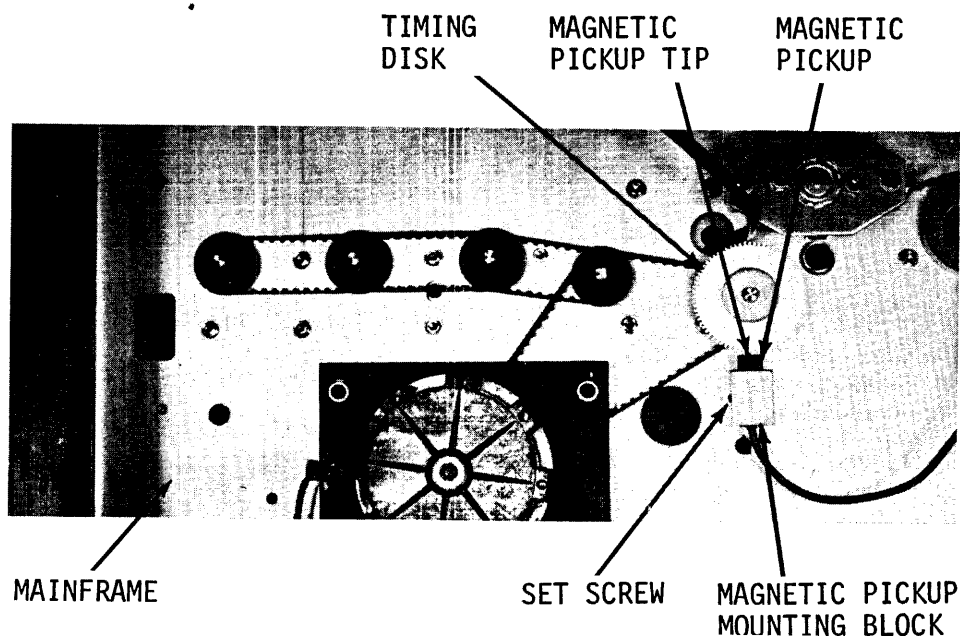

Figure 9-13. Magnetic Pickup Replacement
- b. Using a 1/16 Allen wrench, LOOSEN set screw in magnetic pickup mounting block, figure 9-13.
- c. Remove magnetic pickup from mounting block, figure 9-13.
- j. Insert the pickup unit into the mounting block, figure 9-13.